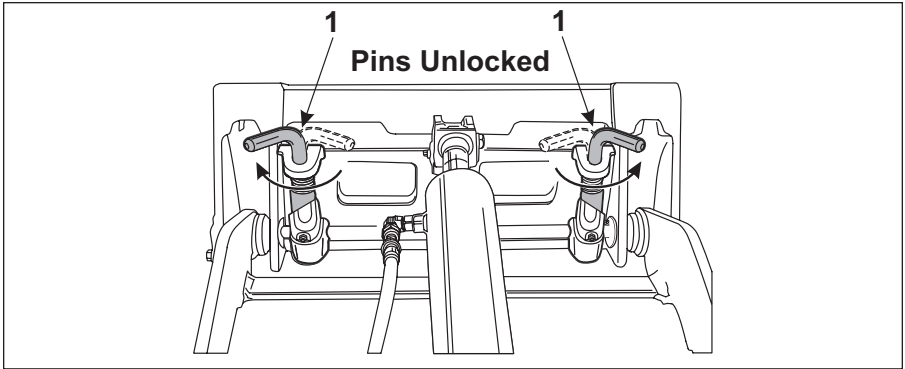

Figure 3-26 Attachment Locks in Unlocked Position
**NOTE:** Make sure that both of the attachment lock pins (Item 1, Figure 3-26) are in the "unlocked" position. Refer to "Attachment Lock Pins" on page 3-18.